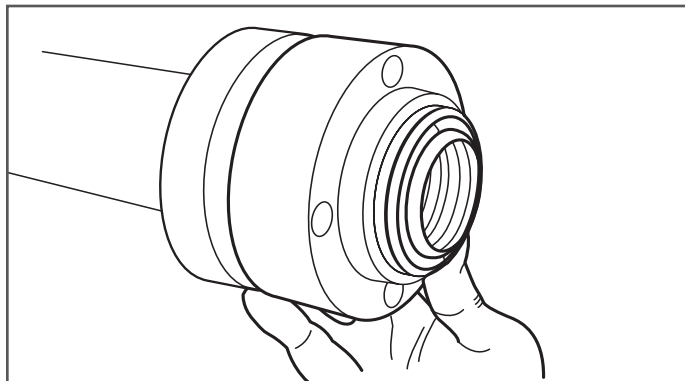

Figure 7-20
21. Slide the back and middle section of the fitting up until the split rings are covered by fitting (Figure 7-20).